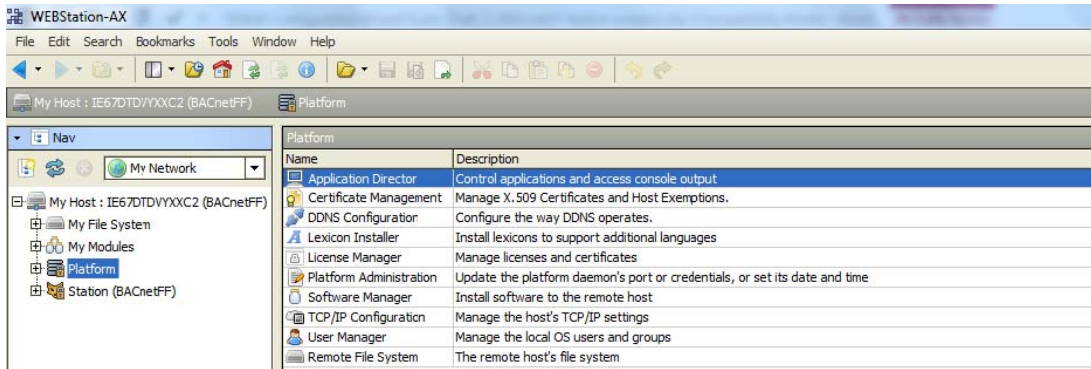

Fig. 13. Application Director
1. Double click on 'Platform', it opens a screen as shown in Figure 13.
2. Double click on 'Application Director' at the right pane. (Refer to Figure 13).